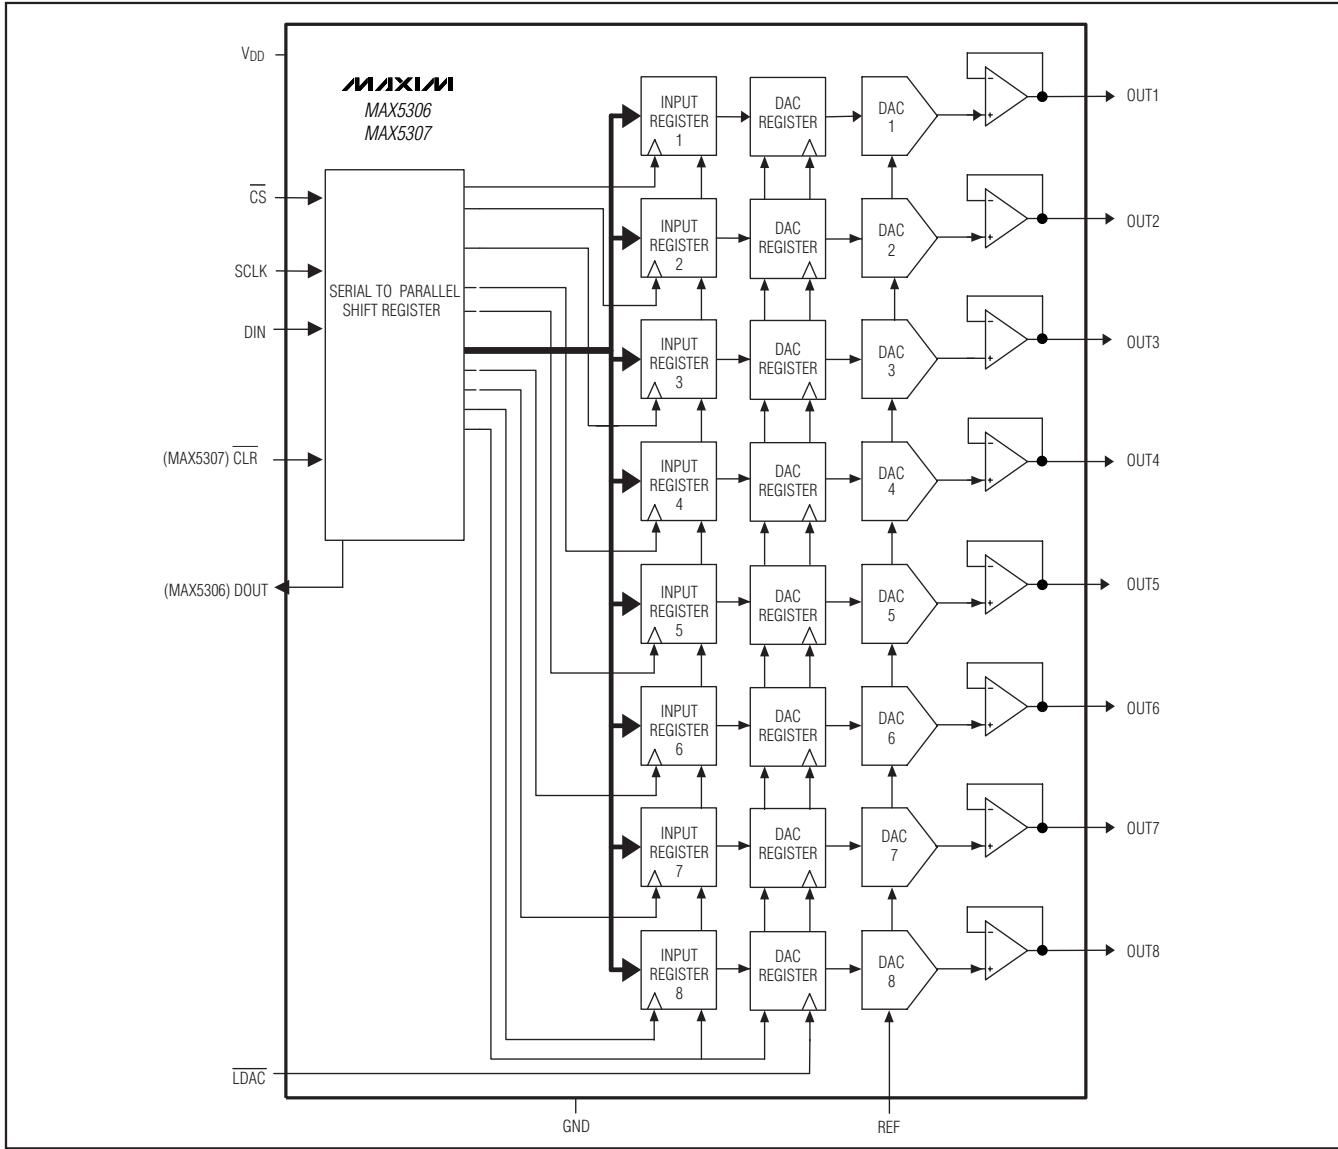

Figure 1. Functional Block Diagram
Figure 1 shows the block diagram of MAX5306/MAX5307. The shift register converts a serial 16-bit word to parallel data for each input register operating with a clock rate of up to 15MHz. The 3-wire digital interface to the shift register consist of chip-select (CS), serial clock (SCLK), and data input (DIN). Serial data at DIN is loaded on the falling edge of SCLK.